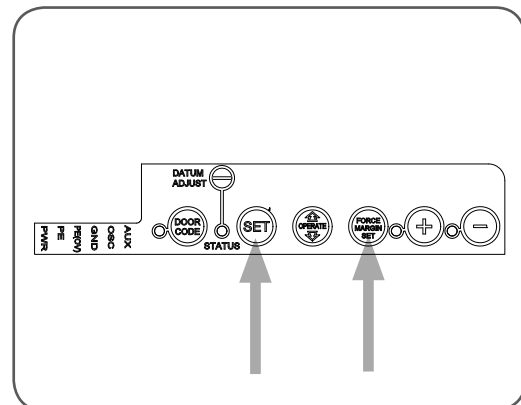

fig 36
- While holding down the FORCE MARGIN SET button, press the SET button for two (2) seconds. (Fig. 36)